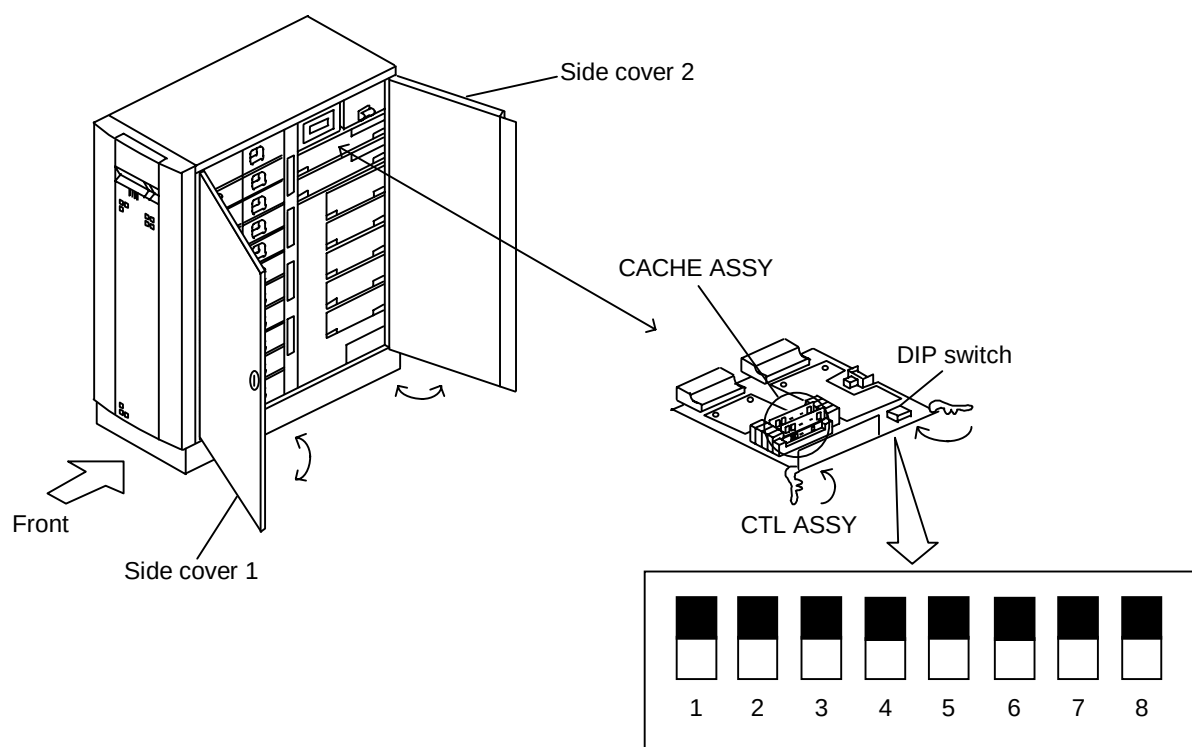

Figure 2.5.1 Installing the CTL ASSY
- (3) Open the side covers.
- (4) Install a CACHE ASSY in the additional CTL ASSY. (Mount a CACHE ASSY of the same capacity in the same corresponding slot of the optional CTL ASSY as those of the already installed CTL ASSY respectively as shown on CK-OPTION0150.)
- (5) Insert the CTL ASSY in a predetermined position with the right and left levers opened. Push the right and left levers in the arrow-marked erection (→) at the same time. (See Figure 2.5.1.)